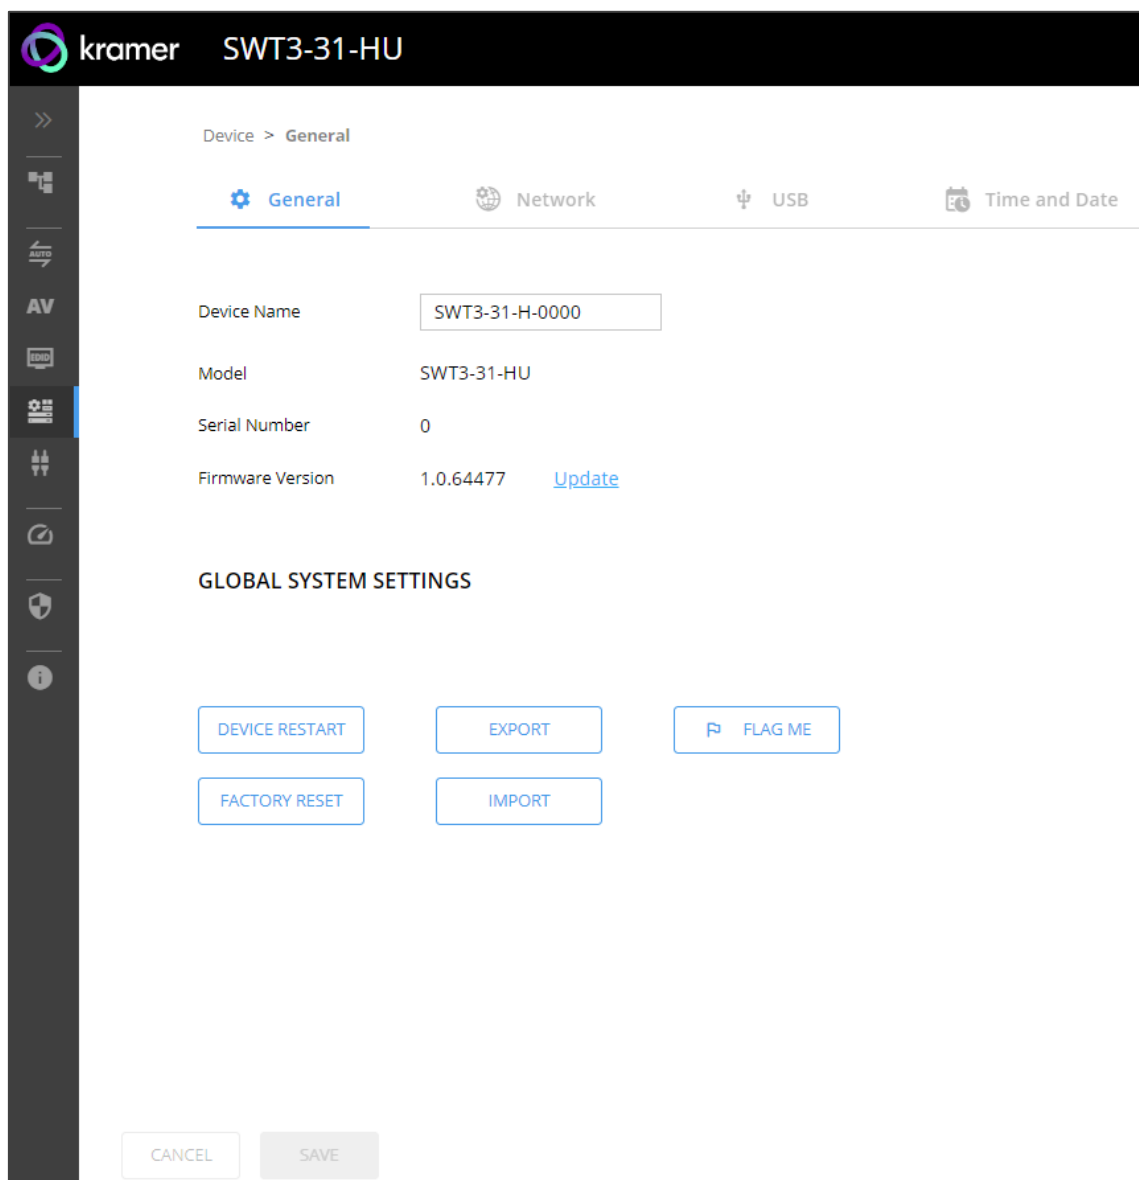

Figure 21: Device > General Page
1. Go to the **Device > General** page (Figure 21).
- Click **DEVICE RESTART** on the **Device > General** page (Figure 21).
- Click **FACTORY RESET** on the **Device > General** page (Figure 21).